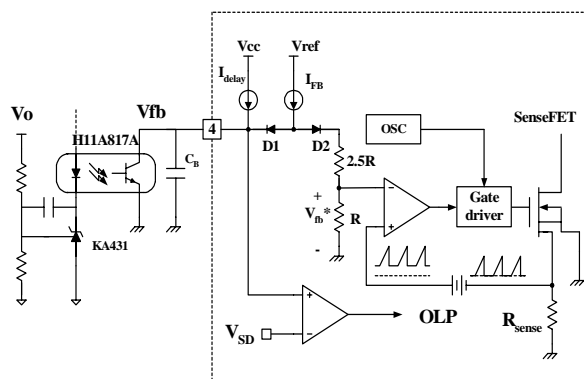

Figure 5. Pulse width modulation (PWM) circuit
2. Feedback Control : FSDM0565R employs current mode control, as shown in figure 5. An opto-coupler (such as the H11A817A) and shunt regulator (such as the KA431) are typically used to implement the feedback network. Comparing the feedback voltage with the voltage across the R_{sense} resistor plus an offset voltage makes it possible to control the switching duty cycle. When the reference pin voltage of the KA431 exceeds the internal reference voltage of 2.5V, the H11A817A LED current increases, thus pulling down the feedback voltage and reducing the duty cycle. This event typically happens when the input voltage is increased or the output load is decreased.
2.1 Pulse-by-pulse current limit: Because current mode control is employed, the peak current through the Sense FET is limited by the inverting input of PWM comparator (Vfb*) as shown in figure 5. Assuming that the 0.9mA current source flows only through the internal resistor (2.5R + R = 2.8 kΩ), the cathode voltage of diode D2 is about 2.5V. Since D1 is blocked when the feedback voltage (Vfb) exceeds 2.5V, the maximum voltage of the cathode of D2 is clamped at this voltage, thus clamping Vfb*. Therefore, the peak value of the current through the Sense FET is limited.